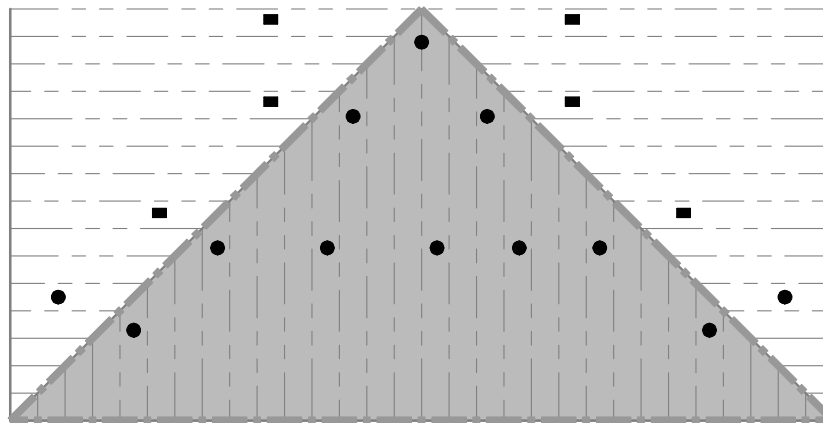

FIGURE 20: HYDRAULIC CALCULATIONS REQUIRED FOR RE @ HIP (FRAMING MEMBERS PARALLEL TO SLOPE)
- Calculate all sprinklers within the hip area shown shaded. See Figure 20.